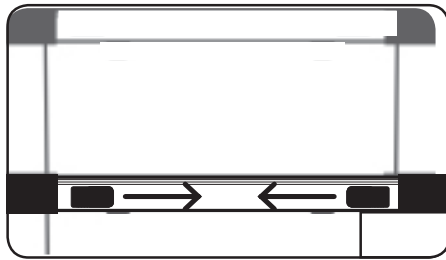

Fig.1
To collapse the Telescopic Ladder down to its closed position, push the Locking Mechanisms (3) together simultaneously (FIG 1) and release.